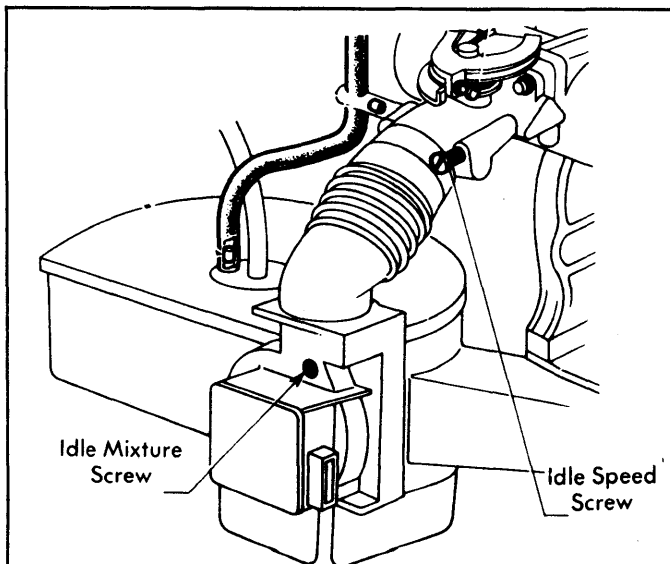

Fig. 7: Fuel Injection Idle Speed & Mixture Screws
- 1) On R-17 G, turn idle mixture (by-pass) screw to obtain specified idle speed. See Fig. 7. Turn control knob on fuel injection control unit to obtain specified CO% level.